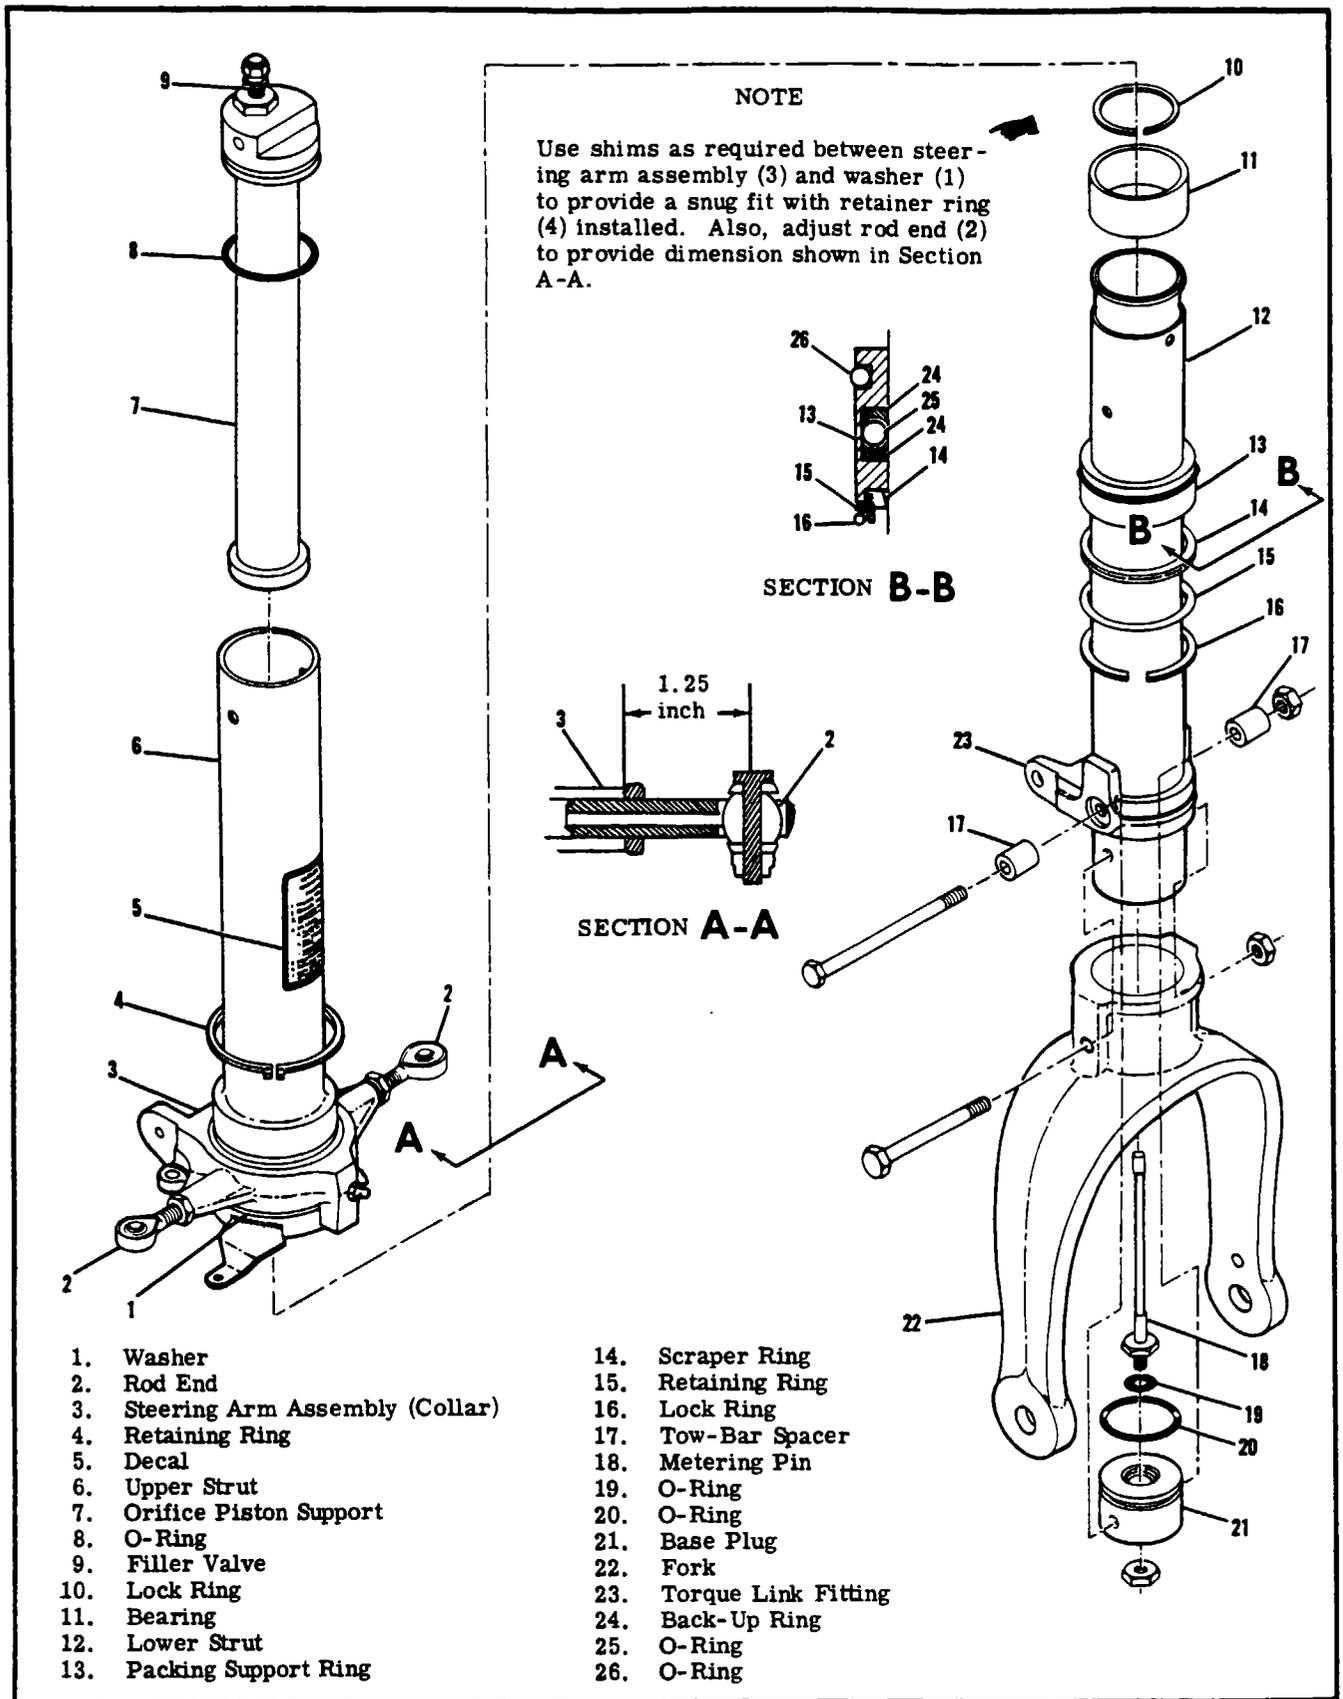

Figure 5-9. Nose Gear Shock Strut
5-37. NOSE GEAR SHOCK STRUT DISASSEMBLY. (See figure 5-9.) The following procedures apply to the nose gear shock strut after it has been removed from the aircraft, and the speed fairing and nose wheel have been removed. In many cases, separation of the upper and lower strut will permit inspection and parts installation without removal or complete disassembly of the strut.
5-38. NOSE GEAR SHOCK STRUT REASSEMBLY. (See figure 5-9.)
- f. When installing the rod ends in the steering collar, adjust to the dimensions shown in figure 5-9.